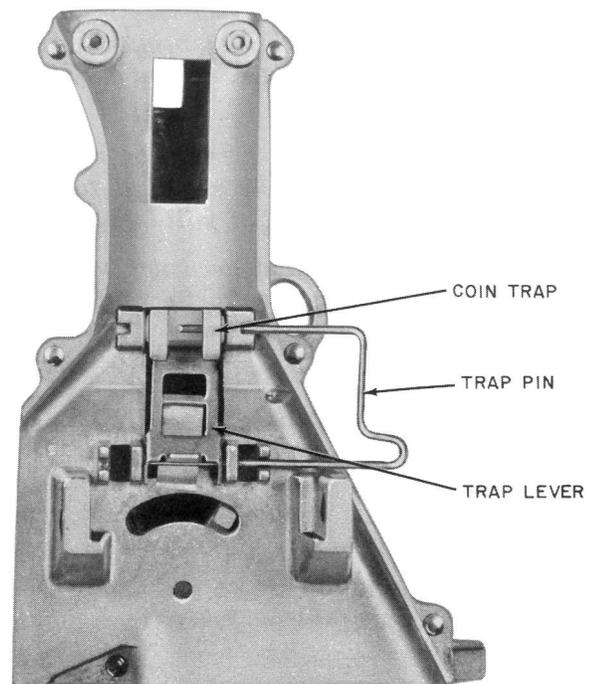

Fig. 19 — Placing Coin Trap on Hopper
- (3) Insert coin trap in hopper and engage pin in trap (Fig. 19).